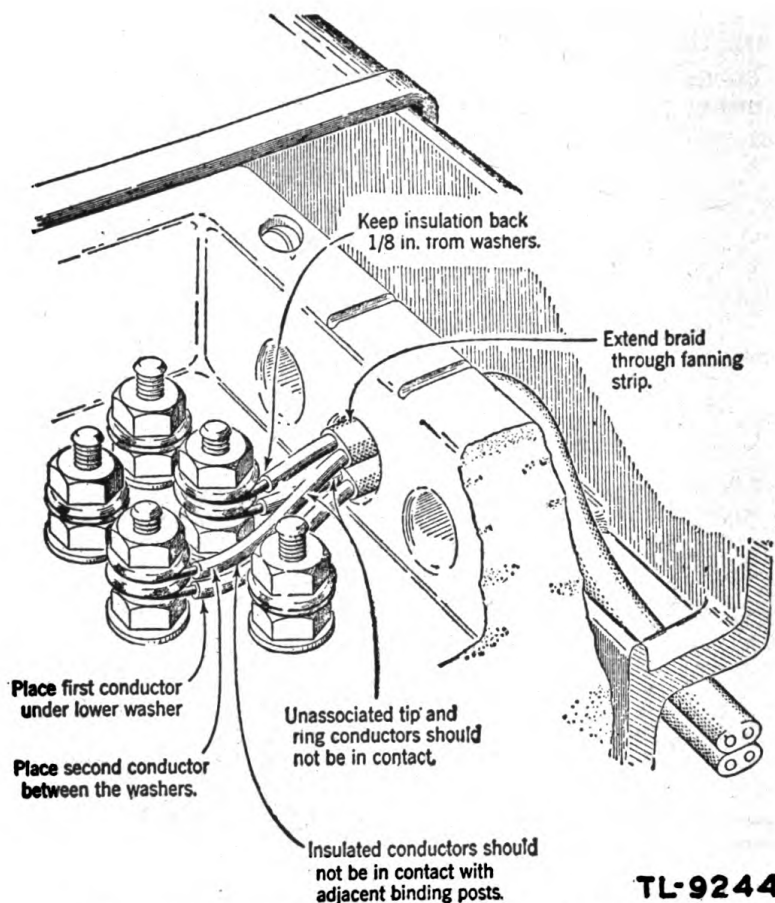

Figure 49. Two wires terminating on one binding post.
(6) When terminating a second wire on one binding post, insert the wire between the washers. Arrange the two wires so that the unassociated tip and ring conductors are not in contact. (See fig. 49.) When the lower wire is disconnected, it is not necessary to shift the upper wire to the lower position.